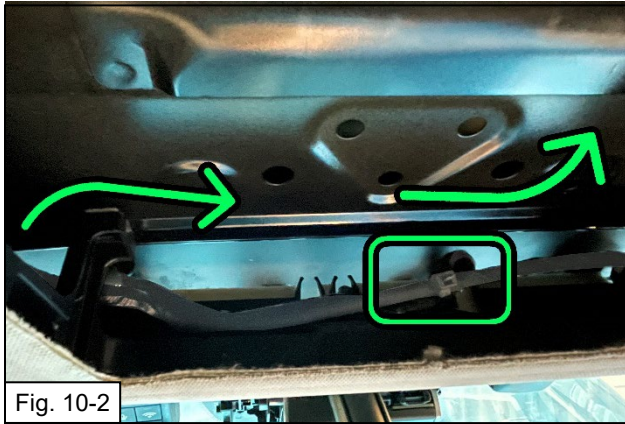

Fig. 10-2
- (b) Secure the Dashcam pigtail harnesses against the existing harness that leads to the Pre-Wire Connector on the passenger's side of the map light / sunglasses pocket opening. Loop and bundle them as required. Arrange this in a way that does not obstruct the console being reinstalled. Tighten the zip tie and snip off the excess, and then **orient the zip tie to have the block in the upright position to prevent noises from contact with the overhead console.** (Fig. 10-2)